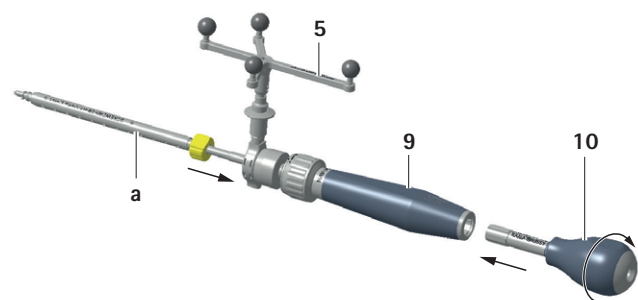

Fig. 12
- ▶ Attach the screwdriver a (SZ063R) to the navigation handle 9. The screwdriver attachment to the handle is exactly the same as for the taps, see Fig. 12, see Chapter 3.6.1